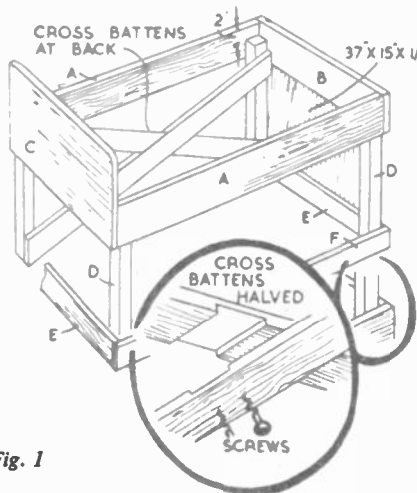

Fig. 1
The diagram in Fig. 1 shows the main
construction. The corner posts (D) are 22ins. high and are cut from 2in. by 2in. wood. The posts are secured to the pieces (A), (B), (C), (E) and (F) as shown in Fig. 1. Use countersunk screws and glue.